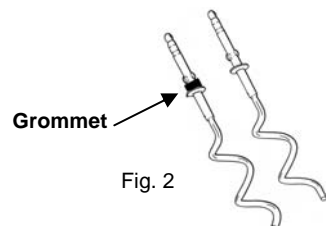

Fig. 2
- The dough hooks have a set method of fitting into the hand mixer because they are not identical. One has a grommet and the other does not. (Fig. 2)